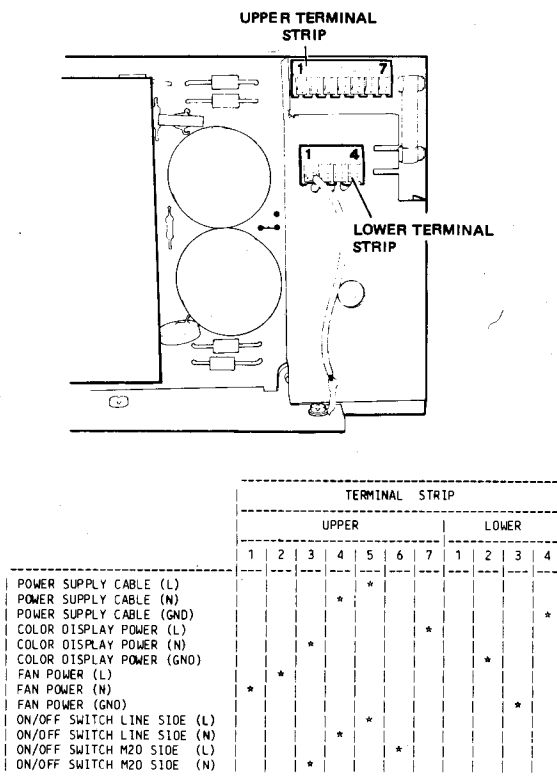

Fig. 5-7 Power Supply Unit Terminal Strips
- 4 - Disconnect the power supply cable(s) and the wires that connect the power supply to the fan from the upper and lower terminal strips (see Figure 5-7).
- 5 - Disconnect the ground wire from the spade terminal on the motherboard (see Figure 5-7).
- 2 - Disconnect the wires that connect the power supply to the fan from the upper and lower terminal strips (see Figure 5-7).
- 2 - Disconnect the three wires of the power cable from the terminal strips (see Figure 5-7).
- 2 - Disconnect the four wires of the ON/OFF switch from the upper terminal strip of the power supply unit (see Figure 5-7).